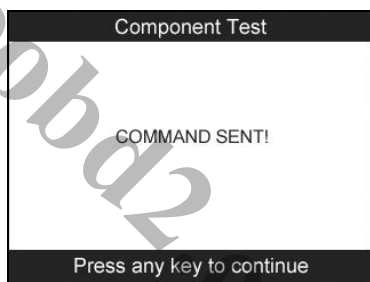

Figure 6.25
- 3) If the test has been initiated by the vehicle, a confirmation message will be displayed on the screen. (Figure 6.25)